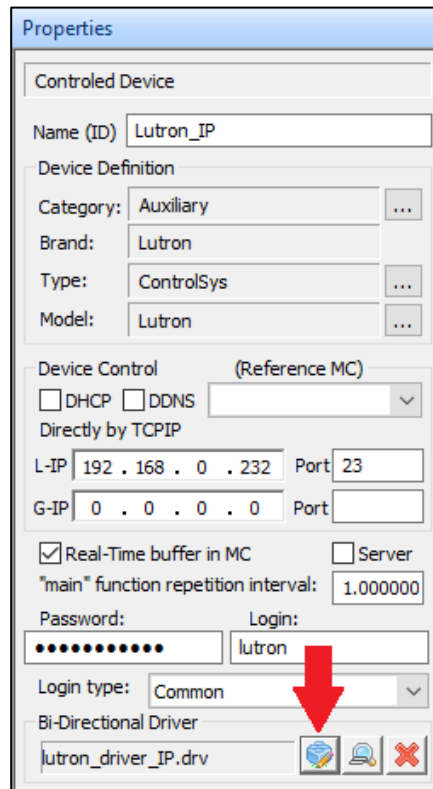

Figure 48 - Edit Driver Button
13. **Do not proceed to this step without configuring all pages first!** Once all pages are configured, it is time to edit the driver. Under System Designer, click “Lutron\_IP”. Then under Properties on the far right side, click on the blue cube in the “Bi-Directional Driver” field (Figure 48).